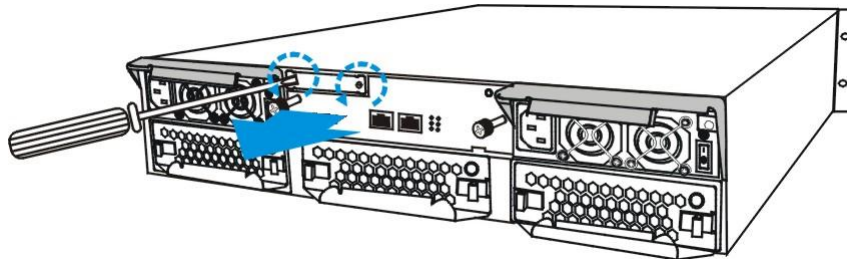

Fig. 2.4 Loosening the BBU Retention Screws
1. Remove the faulty BBU from the chassis. Loosen the two (2) retention screws located on both sides of the BBU, then pull out the BBU. (See Figure 2.4.)